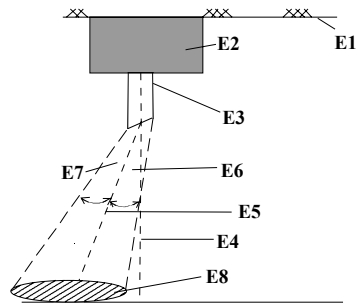

Figure 6: Collection cone when using the fibre rod with an oblique surface
- The white-painted optical fibre rod with an oblique light-sensitive surface and the collection cone shown in figure 6 should then be used only if the sensor cannot be mounted directly above, but can only be mounted offset to the side of the surface whose brightness it is to measure. If the optical fibre rod with the oblique light-sensitive surface is used, the controller is to be calibrated after installation.